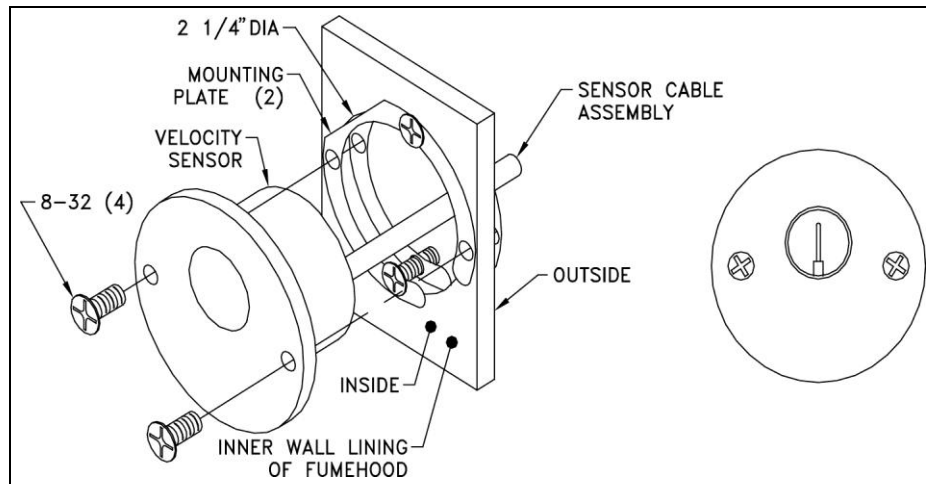

Figure 4: Mounted Velocity Sensor
3. Thread the SENSOR CABLE ASSEMBLY through the mounting plates down to the VELOCITY MONITOR electrical rough-in box (Figure 4). The space between the fume hood liner wall and outer sheet metal panel works well as a chase. Leave 8 inches of slack at the VELOCITY MONITOR end (DO NOT CUT SENSOR CABLE LENGTH).
4. Mount the VELOCITY SENSOR to the MOUNTING PLATE using the remaining two 8-32 × 5/8-inch screws provided (Figure 4).
5. The mounted VELOCITY SENSOR should look like Figure 4.